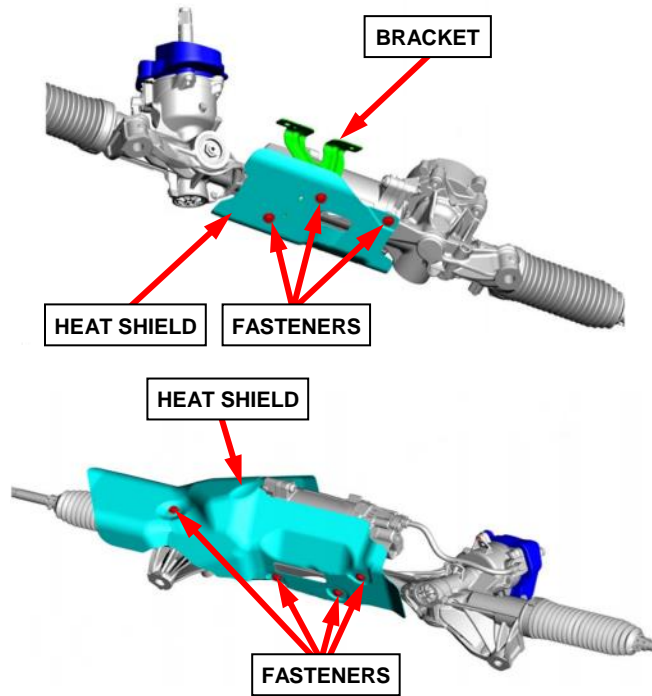

Figure 88 – Heat Shield and Bracket
70. Transfer the heat shield, bracket, and fasteners from the old steering gear to the new steering gear. Tighten the fasteners to 8 N·m (71 in. lbs.) (Figures 88).